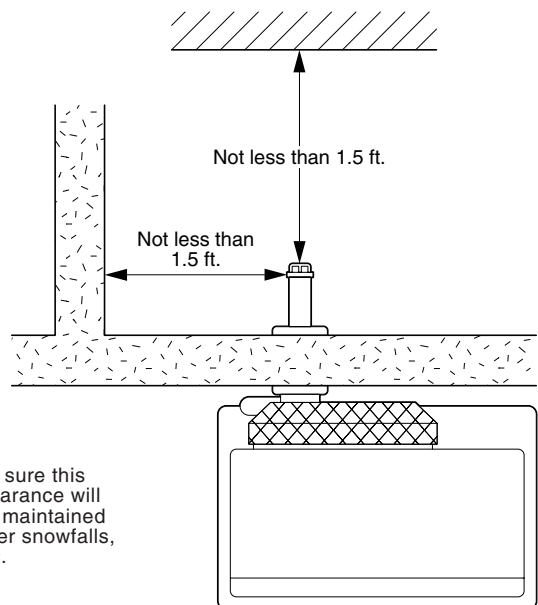

Fig. 3
①	Adjustable Exhaust Pipe Max. 19- ¹¹ / ₁₆ ~ Min. 12- ⁵ / ₈	1
②	Intake Pipe (20 inch)	1
③	Insulating cloth cover (40 inch)	1
④	Pipe Holder	1
⑤	Pipe Support Hardware	1 sets
⑥	L-Shaped Exhaust Joint	1
When using the "Extension pipe (S)" extension kit, the distance between the heater exhaust pipe connection and the flue pipe connection must be at least 15-³/₄ inch but no more than 22-³/₄ inch. (See Figure 3 for reference.)